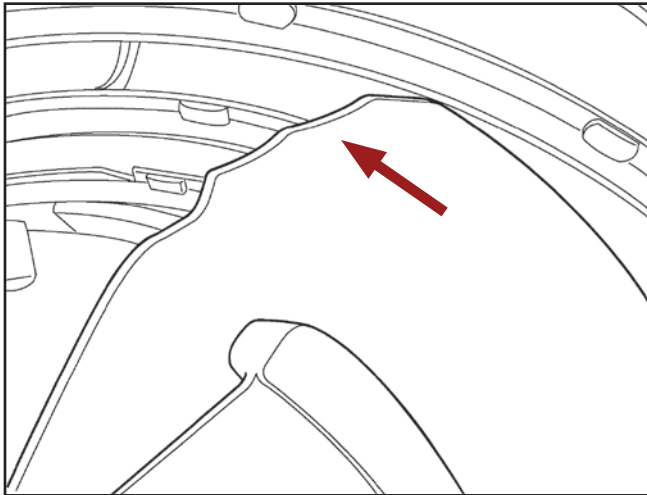

Figure 26.1
- Wear may be somewhat uneven, especially in small grains. This is normal, and should not be cause for replacement (see figure 26.1).